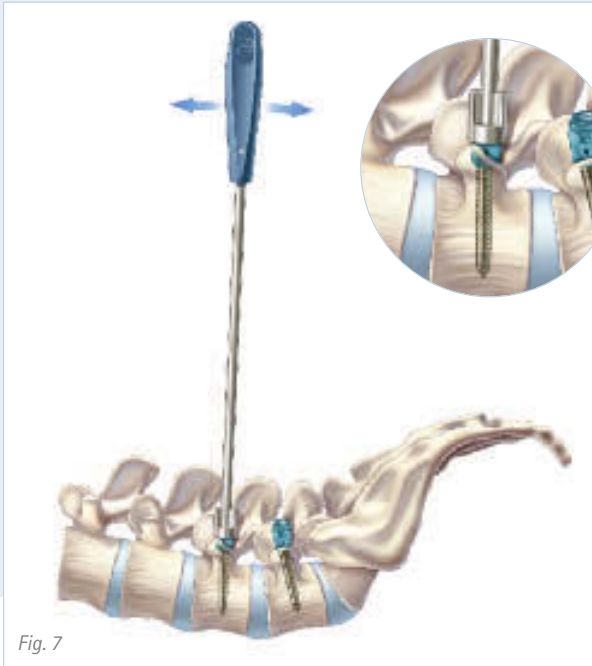

Fig. 7
- All polyaxial screw heads have 42° range of motion. If desired, align the polyaxial screw bodies using the screw body manipulator (FW278R). (Fig. 7)